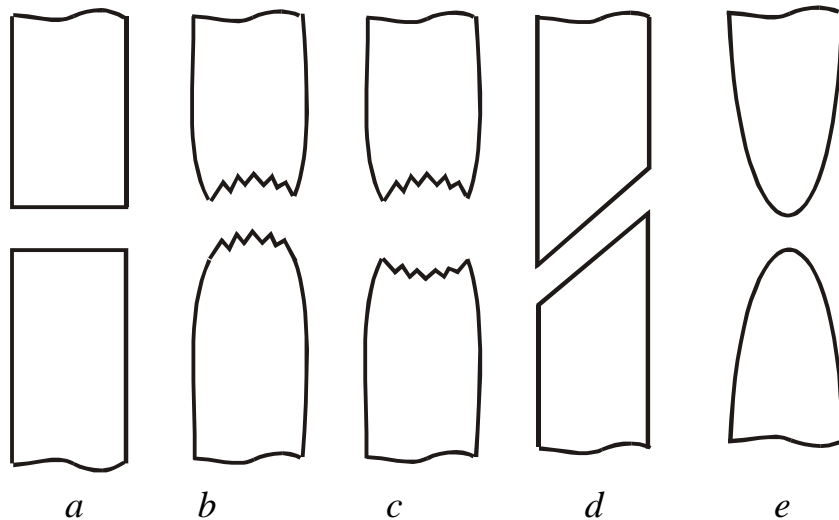

Fig.1.1. Specific types of fractures in tension
**Direct** (Fig. 1.1) is called fracture which surface is oriented normal to the axis of the sample or product that is perpendicular to the direction of greatest tension efforts. This fracture orientation is a characteristic feature of brittle fracture.